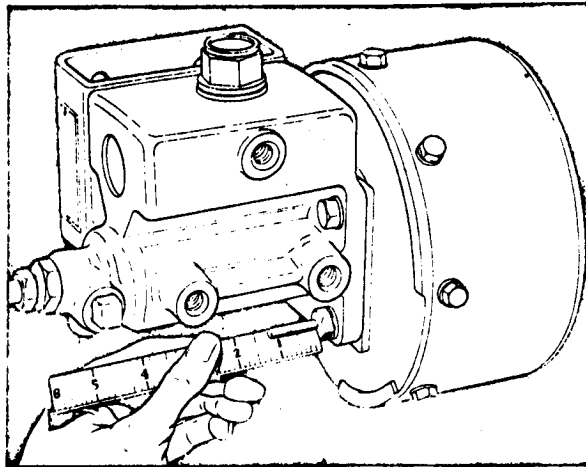

Figure 2
**1" - 1-1/4" as illustrated in Figure 2.**